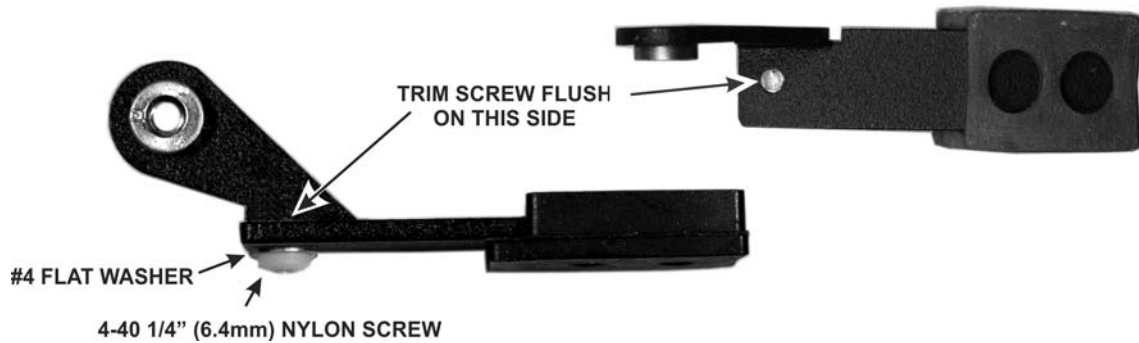

Figure 31. Placing Nylon Bumpers on the Tilt Legs.
- ☐ Install a flat washer and nylon screw on each tilt leg as shown in Figure 31. Note the orientation of the screw as well as the rubber foot that you installed earlier. They must be as shown for the foot to work properly.
- ☐ Verify that you trimmed the screws flush with the legs as shown in Figure 31. Set the legs aside. They will be installed later.